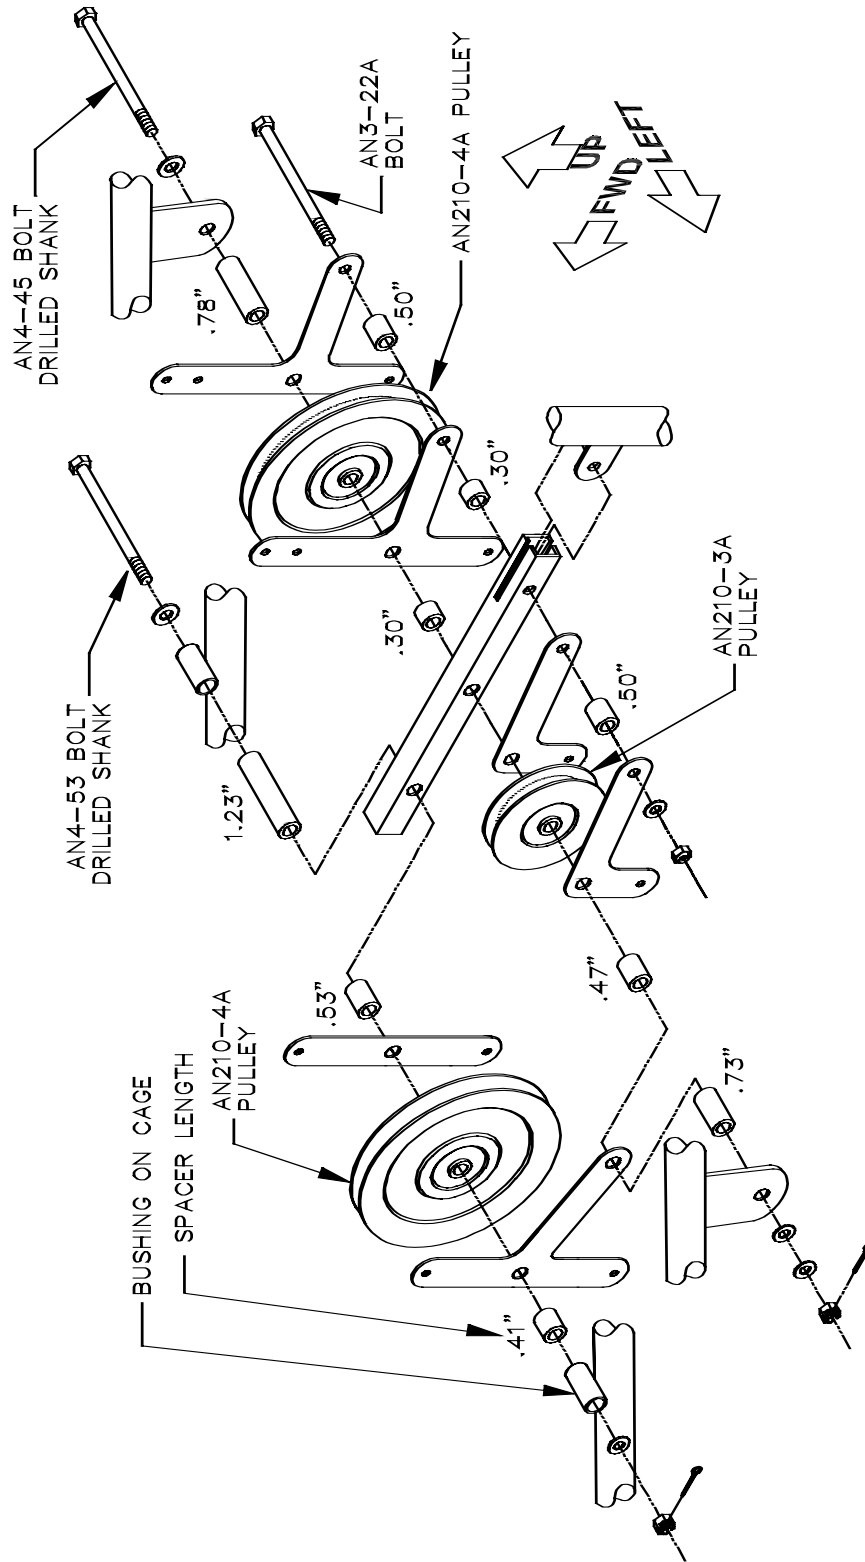
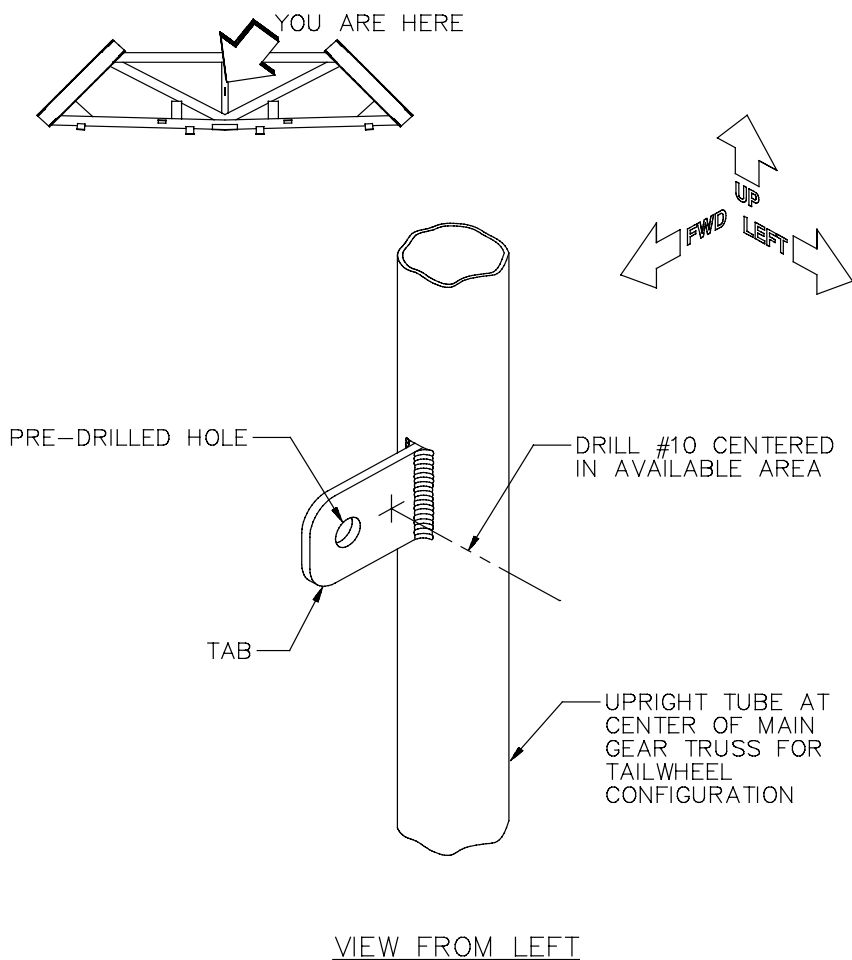
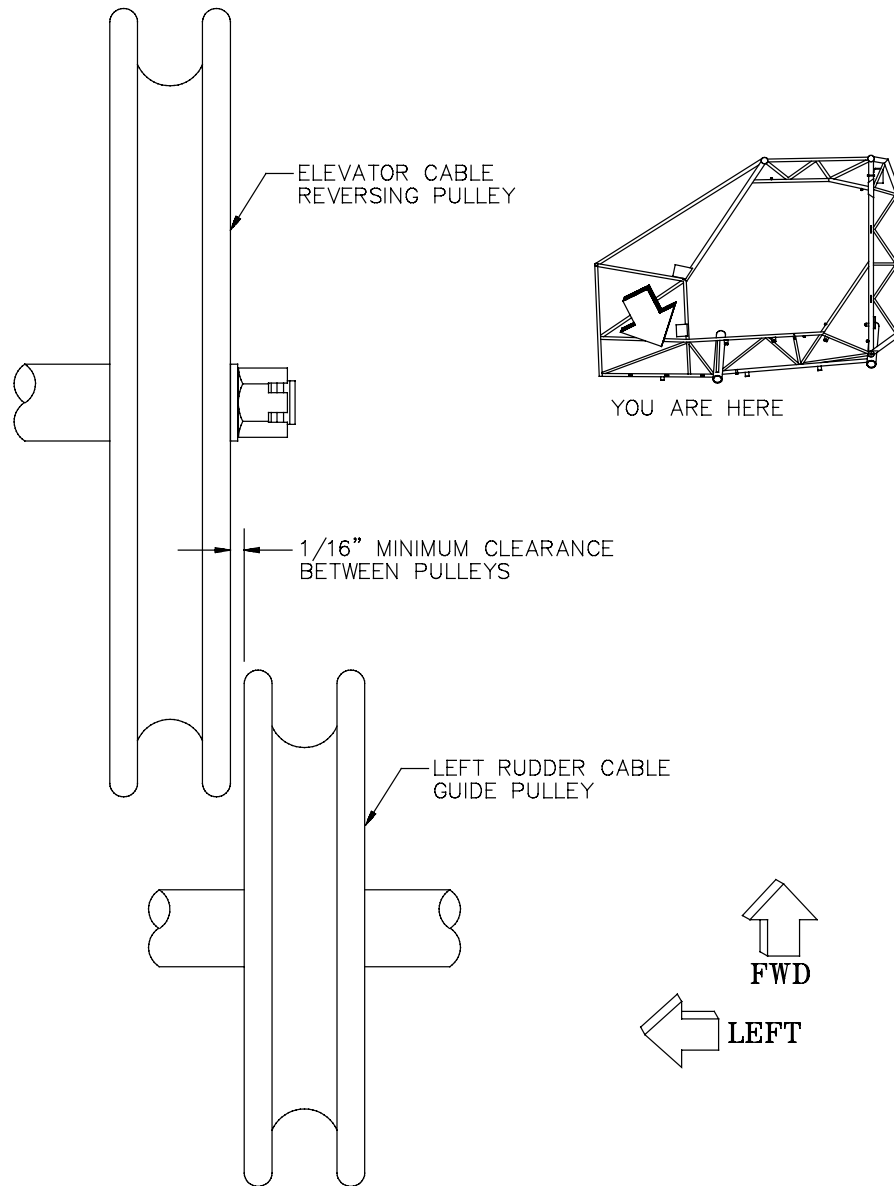

Figure 23: Exploded view of the forward pulley group
Figure 26: Hole in Tab on Fuselage Cage
Figure 27: Proper Pulley Clearance
Page 53: Early cages had some variation between the bushings and tabs for the forward pulley group. A few cages may need longer bolts, namely an AN4-56 and AN4-47. The forward left pulley in figure 23 will be labeled as "elevator reversing pulley", the small center pulley is the "left rudder cable pulley" and the far right pulley is the "flap reversing pulley".
Page 54: The first sentence will change to make (3) outboard pulley guards. The sentence 'The second hole at 2.60" on the third pulley guard can be trimmed off as shown in the left side of Figure 23' will be added to the first paragraph.
The forward pulley group between the pilot and copilot consists of three pulleys to rout the elevator, flap and rudder cables through the cabin area. The forward most pulley is the elevator reversing pulley. The smallest of the three pulleys is for the left rudder cable and the third pulley on the right is the flap reversing pulley. A pulley is not required for the right rudder cable. A plan view of the pulleys can be seen in Figure 22. Figure 23 shows an exploded view of the group with all the hardware. The spacer lengths are approximate and your lengths may vary.
Once your cable guards are made, install an **AN210-4A [87]** elevator cable reversing pulley and the two forward pulley guards using an **AN4-53 [126]** drilled shank bolt through the two welded bushings on the cage as shown in Figure 23, omitting the spacers for now. Using the two tabs for the aft pulleys, locate and mark the position of the 1/4" hole on the outboard guard. The dimension should be approximately the 2-5/16" in Figure 24. Drill this hole up to 1/4" diameter and make sure you can insert the **AN4-45 [128]** drilled shank bolt through the two tabs and the outboard pulley guard. Make any adjustments to the guard necessary to get the bolt to pass through to the tab on the other side.
Note Instead of the **AN210-4A** pulleys specified in the preceding paragraph and in Figure 23, some kits include **MS24566-4B** pulleys. Both types of pulleys are aircraft-grade, 3-1/2" phenolic pulleys and are thus completely interchangeable. Which pulley is supplied simply depends on current pricing and availability from our vendors.
The long bolts common to the pulleys are supported in the center by a square aluminum tube that is bolted to the aft center tab on the tail dragger gear truss as illustrated in Figure 23. You will use the outboard pulley guard as a drill guide to drill two 1/4" diameter holes in the **1/2" x 1/2" x .06 [51]** square aluminum tube. The first hole should be approximately 1/2" in from one end and the second hole near the center will be approximately 2-5/16" away. Use a drill press and make sure the hole is perpendicular to the tube.
Depending on your cage configuration, you may have to drill a hole in the center tab on the tail dragger gear truss. Even if your tab has the predrilled hole (first six cages only), due to weld tolerances, you might have to drill a new hole aft of the predrilled hole as shown in Figure 26. Begin by inserting the **AN4-45 [128]** drilled shank bolt into the aft pulley bracket tab on the right side of the cage. Install the second **AN210-4A** pulley, the two flap cable pulley guards, the **AN210-3A [86] rudder cable pulley** and the smaller cable guards as shown in Figure 23. Omit the spacers and the square aluminum tube for the time being.
Next, insert the **AN3-22A [98] bolt** through the pre-existing hole in the aft center tab. If there is no interference between the bolt and the **AN210-4A** pulley, you can use this pre-drilled hole. If there is interference, you will have to drill a second #10 hole aft of this hole as shown in Figure 26. This hole will never have a forward load on it. It will
always have an aft compression load applied here from the aluminum tube that is supporting the elevator reversing pulley, so you can space the two holes close to each other allowing enough room for the square tube to clear the welds on the tab. Before drilling this hole, cut the aluminum tube to a length that will just clear the center tube supporting the tab and provide a slot running down the center that will clear the tab as shown in Figure 23.
Review the cable installation for the flaps, rudders and elevator in Steps 22-24 for routing the string through the forward pulley group. Double check that you have met the minimum clearance between the elevator pulley and the aft rudder pulley, as shown in Figure 27. When you are confident of the positioning of the pulleys and the cable routing, begin by measuring one spacer length at a time and cutting this spacer length from the **3/8 x .035 6061 aluminum tubing [389]**. Use a tubing cutter to cut each spacer. Keep the end cuts flat and parallel to each other. Proceed across the entire pulley group until you have all the spacers made as shown in Figure 23.
After all spacers are cut and all your cable guards are ready, install all the pulleys, spacers, square tube and pulley guards as shown in Figure 23 using the appropriate AN4-53, AN4-45, AN960-416 **washers**[142], AN960D416 **aluminum washer** [151], AN310-4 castle nuts and an AN380-2-2 cotter pins.